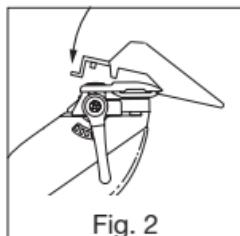

Fig. 2
- Attach combs by holding them teeth up then snapping onto the bottom of the clipper blade (figure 2).